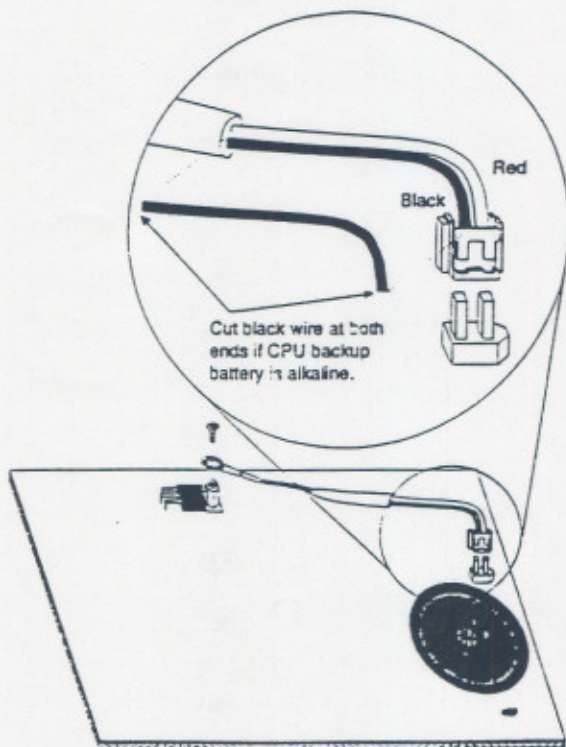

Figure 3. Installing the Resistor Cable
- 1) Install the standoff on top of the existing nut that secures the regulator to the circuit board (see Figure 3).
- 2) Attach the lug end of the resistor cable to the standoff just installed with the Phillips head machine screw, as shown in Figure 3.
- 3) Attach the plug end of the resistor cable to the pins on the circuit board as shown in the round close-up in Figure 3. Observe polarity (red wire to right pin, black wire to left pin).
**WARNING:** If the control panel backup battery is an alkaline type, you must cut the black wire at the two points indicated in Figure 3. If you cut just one end of the wire, it may short to the circuit board when the control panel is powered up.